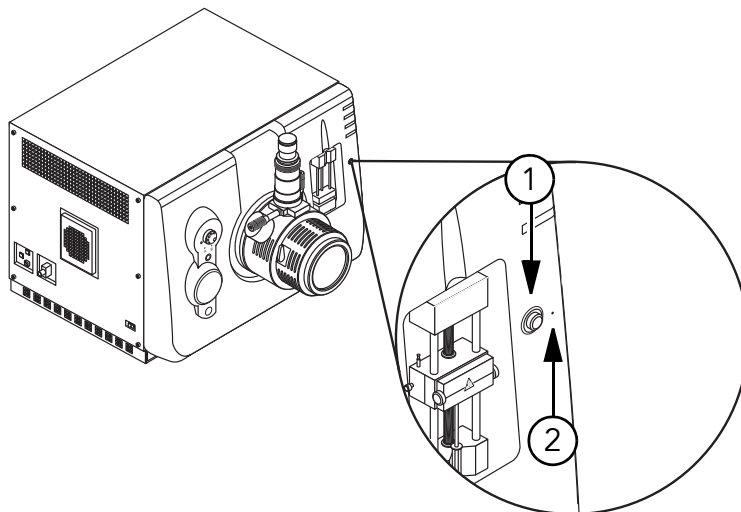

Figure 1-7 Syringe pump LED
4. On the instrument, press the button on the right side of the syringe pump (Figure 1-7 Syringe pump LED) to start the flow.